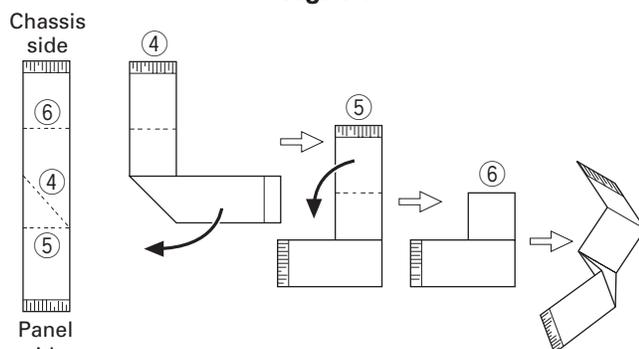

Fig. 4-2
1. Lift the two tabs of the panel on the bottom of the transceiver with a flat-head screwdriver (①) and remove the panel from the chassis (②).
2. Remove the flat cable from the connector (CN902) of the display unit of the panel. (③)
3. Fold the black line of the flat cable (in three parts) as shown in Figure 4-2. (④, ⑤, ⑥)